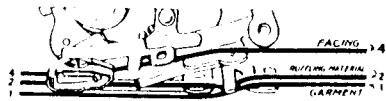

Fig. 53. Correct Positions for Materials.
1. Insert material to be ruffled between two blue blades and under separator guide (Line 2, Fig. 53).
2. Place material to which ruffle is to be attached under separator guide (Line 1, Fig. 53).
3. Place facing material over upper blue blade (Line 1, Fig. 53).